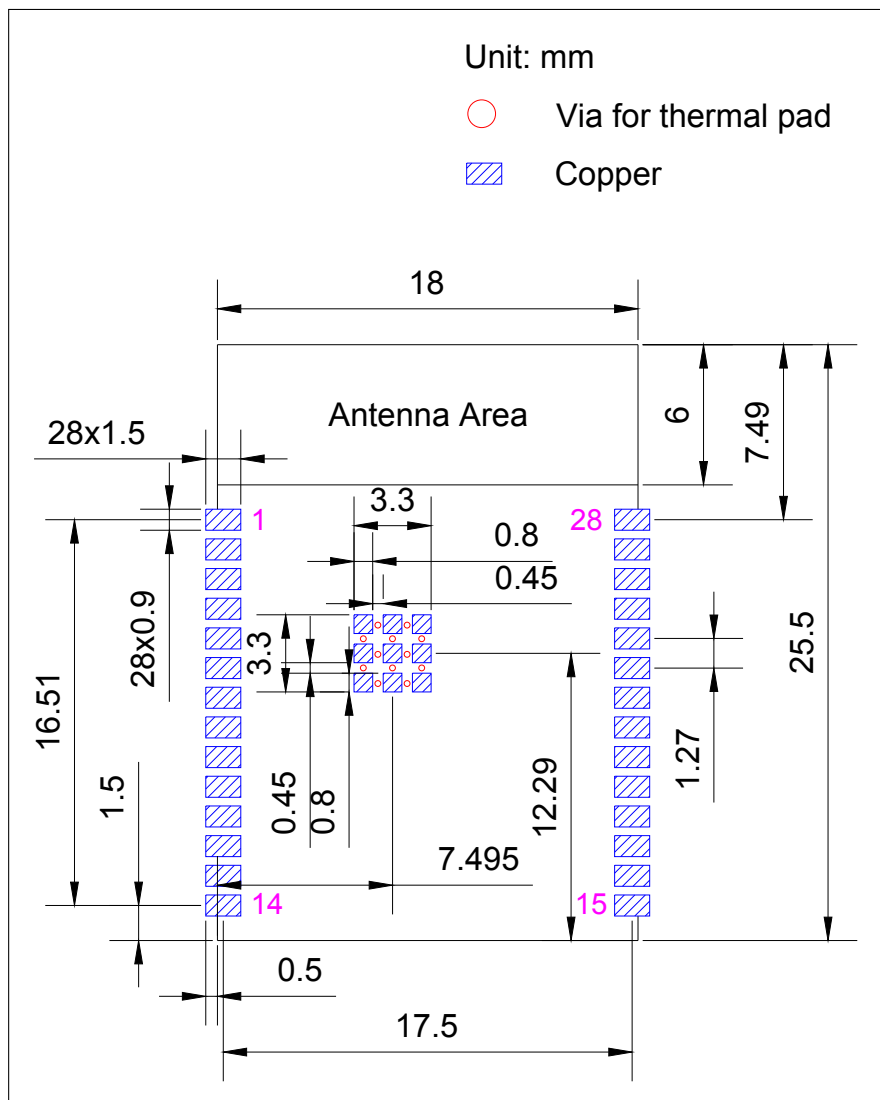
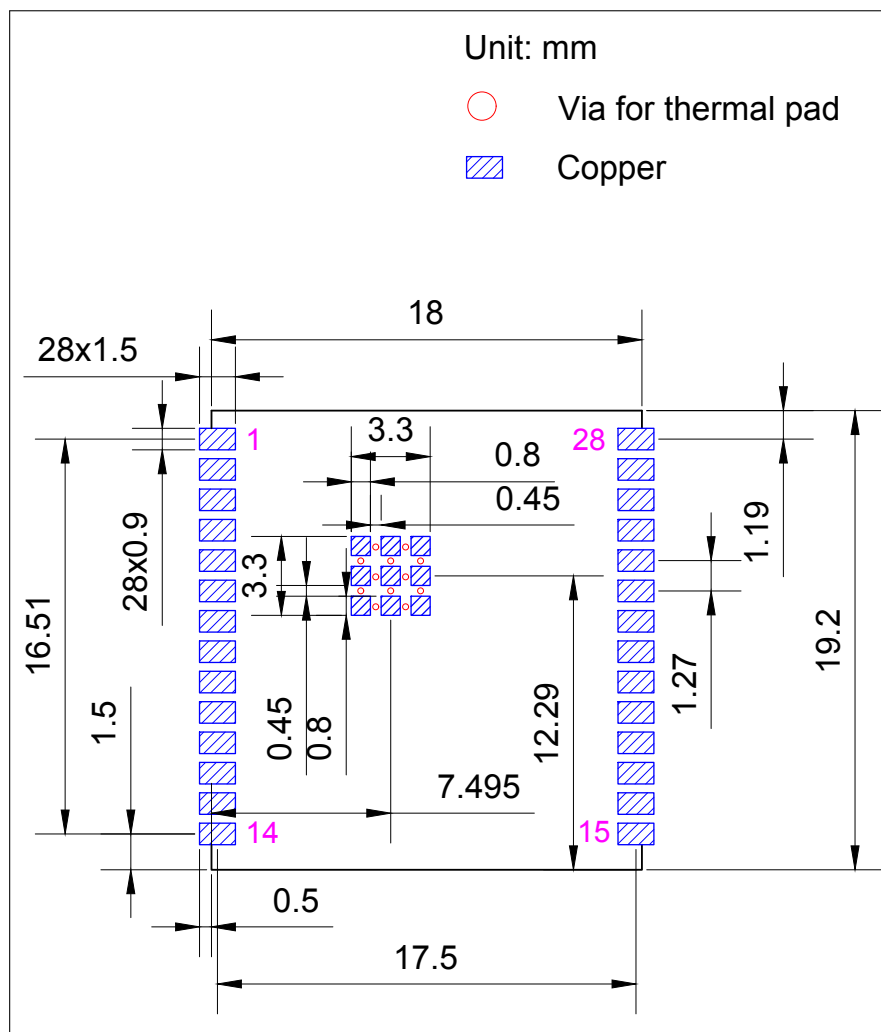

Figure 11: ESP32-C6-WROOM-1 Recommended PCB Land Pattern
Figure 12: ESP32-C6-WROOM-1U Recommended PCB Land Pattern
- Figures for recommended PCB land patterns with all the dimensions needed for PCB design. See Figure 11 ESP32-C6-WROOM-1 Recommended PCB Land Pattern and Figure 12 ESP32-C6-WROOM-1U Recommended PCB Land Pattern.
- Source files of recommended PCB land patterns to measure dimensions not covered in Figure 11 and Figure 12. You can view the source files for ESP32-C6-WROOM-1 and ESP32-C6-WROOM-1U with Autodesk Viewer.